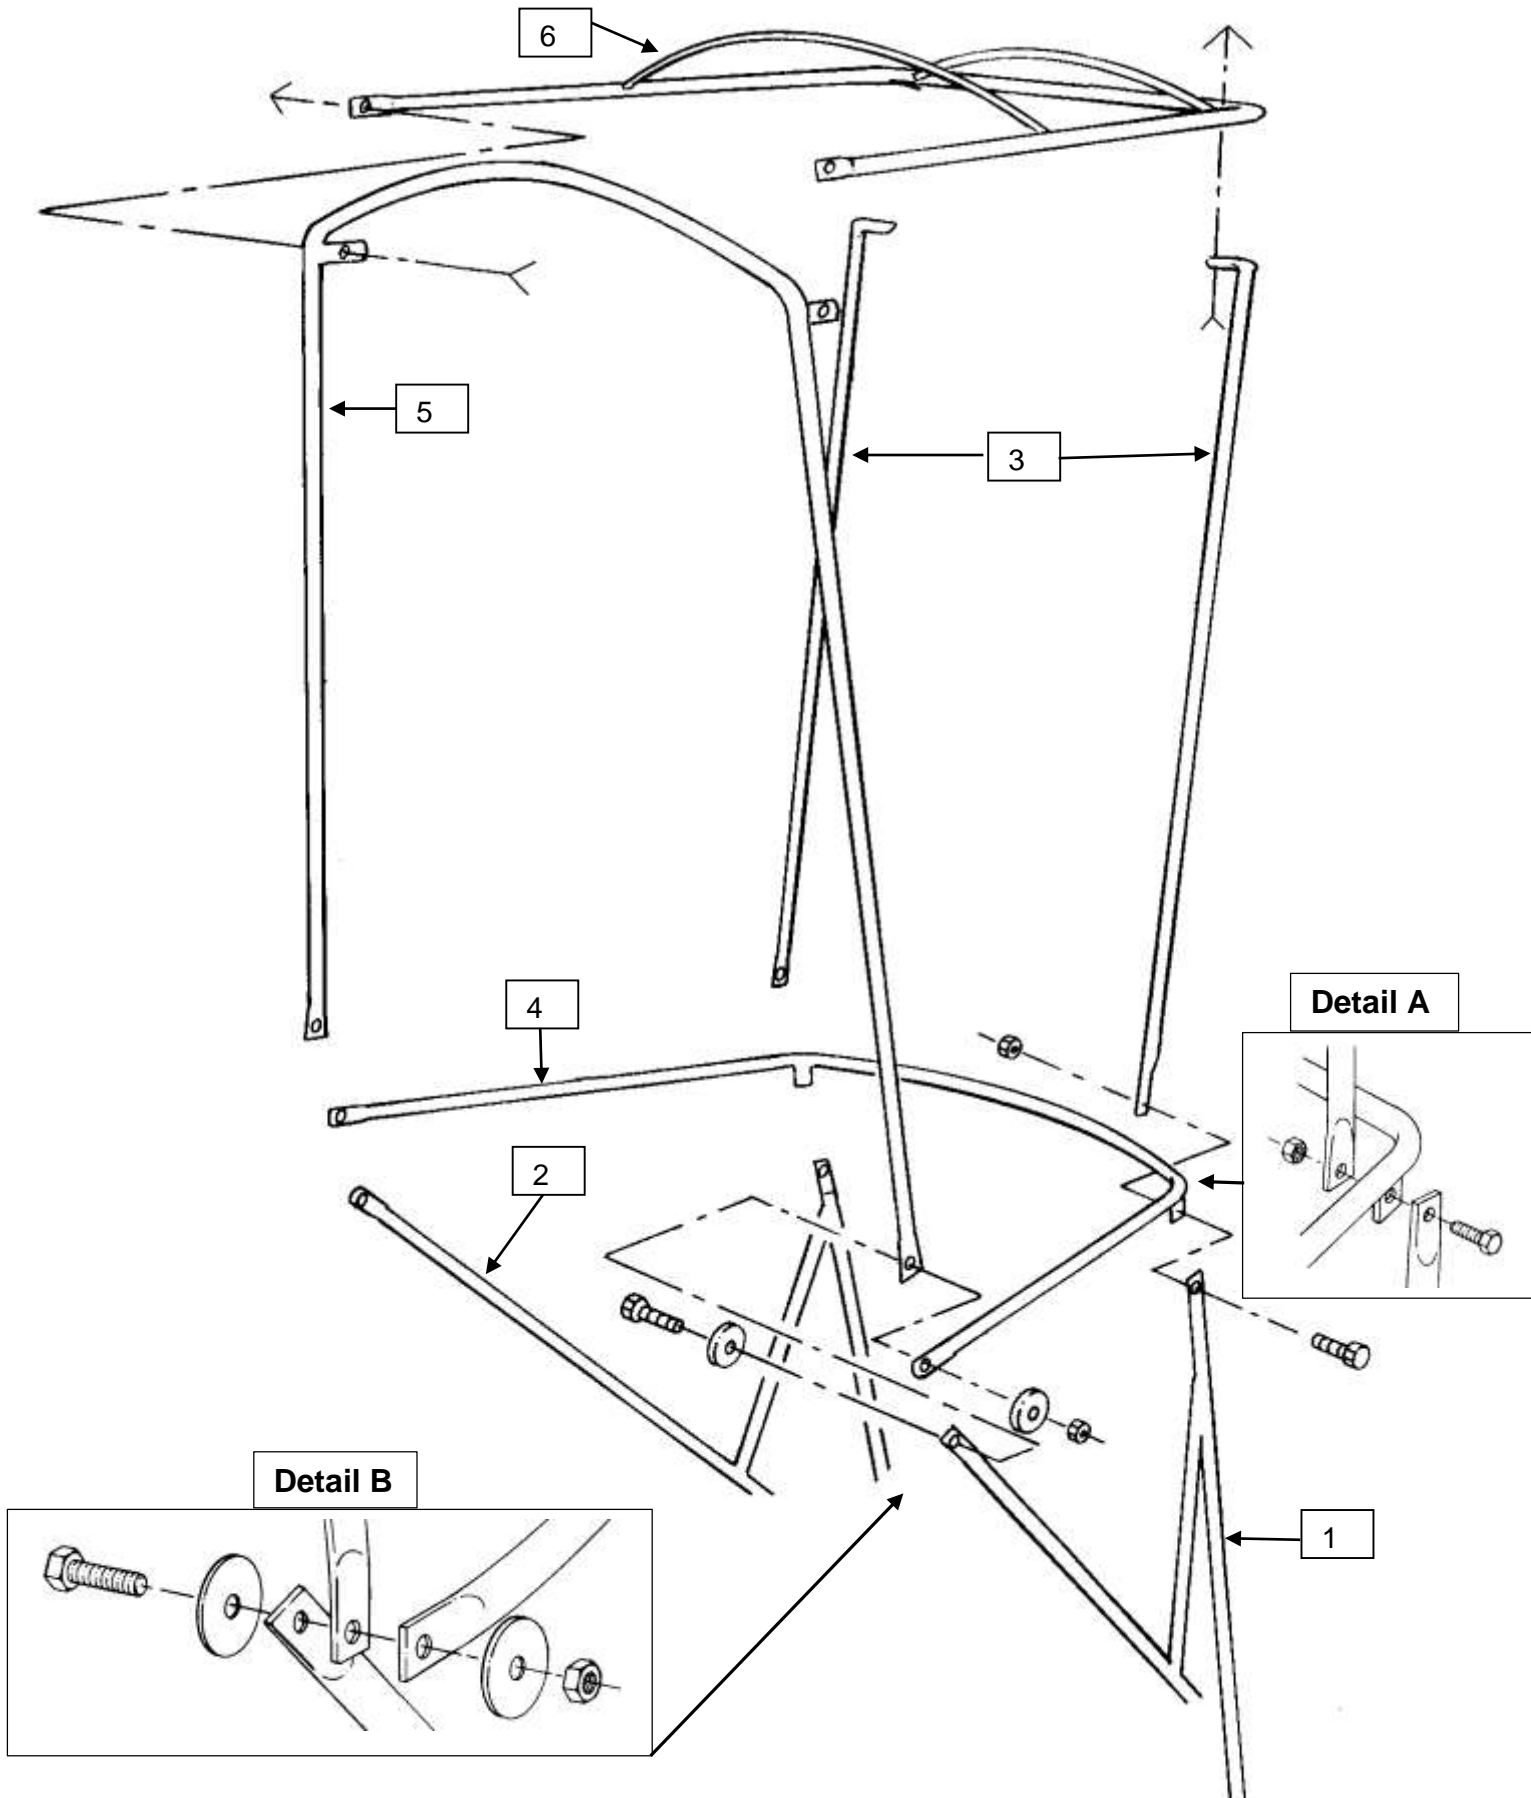

Figure 4
Step 4; See Figure 4:
- A.** Attach the Horizontal Bow (4) and the Front Posts (3) to the Brackets (1 & 2) using two 1/4" x 3/4" bolts and locknuts (**Refer to Detail A**).
Step 5; See Figure 4:
- A.** Mount each leg of the Rear Vertical Bow (5) to the Brackets and the Horizontal Bow using a 1/4 x 1" bolt, two 1/4" fender washers, and a locknut (**Refer to Detail B**).
Step 6; See Figure 4:
- A.** Attach the Top Frame (6) to the Rear Vertical Bow and the Front Posts using four 1/4" x 5/8" bolts and locknuts.